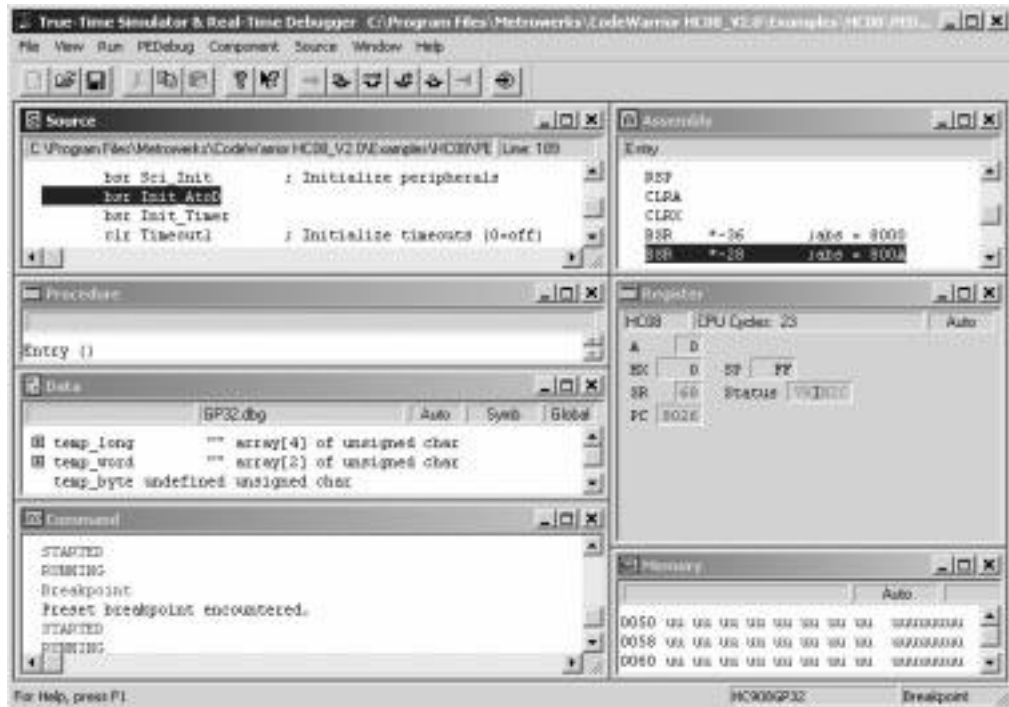

Figure 4-32: True-Time Simulator & Real-Time Debugger Window
4. Click the Debug icon (green arrow). The True-Time Simulator and Real-Time Debugger launches. See **Figure 4-32**.